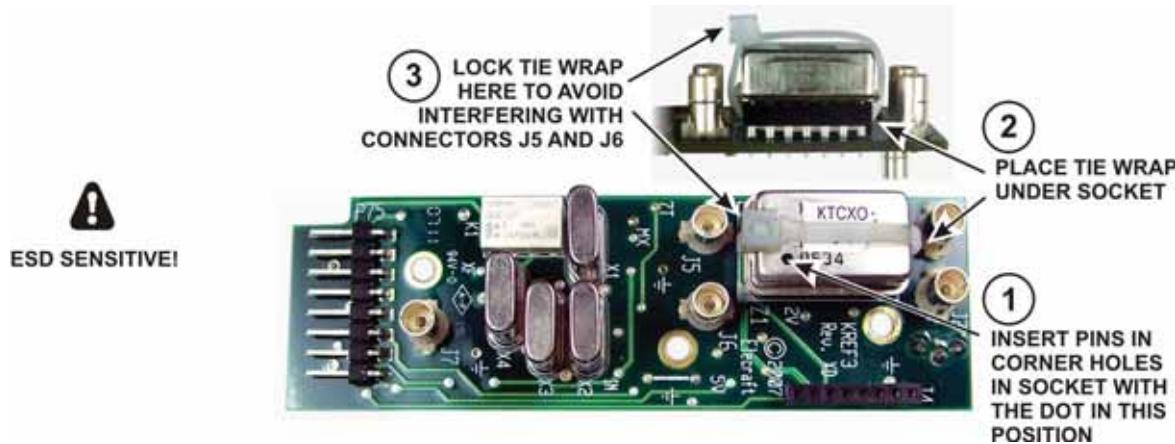

Figure 68. Mounting TCXO Module on KREF3 Board.
- Mount the TCXO module on the KREF3 board as shown in Figure 68. Be certain the leads go into the corner holes in the socket and the black dot is oriented toward connector J6 as shown. If you have a 1ppm high-stability module, the dot may be light brown and not as close to the corner. If the module has only three leads, the missing lead will be in the corner with the dot. If you have the standard 5ppm TCXO, the bottom may be slightly above the socket when the leads are fully inserted. Tighten the tie wrap enough to ensure the oscillator so it cannot fall out but do not bend the leads.